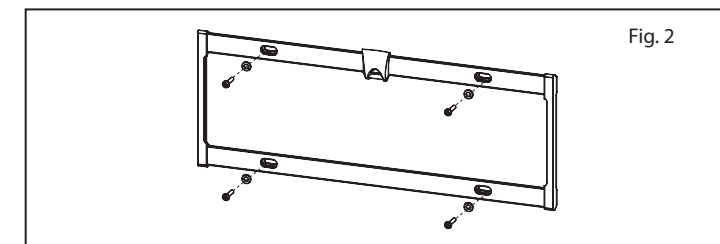

Fig. 2
- 5** Place the wall plate back against the wall and attach it using the M8 x 63 screws (A) and M8 washers (B) provided (see Fig. 2). **Do not over-tighten these screws and do not release the wall plate until all screws are in place.** Ensure that the wall plate remains level after all screws are secured.
5 Place the wall plate back against the wall and attach it using the M8 x 63 screws (A) and M8 washers (B) provided (see Fig. 2). **Do not over-tighten these screws and do not release the wall plate until all screws are in place.** Ensure that the wall plate remains level after all screws are secured.